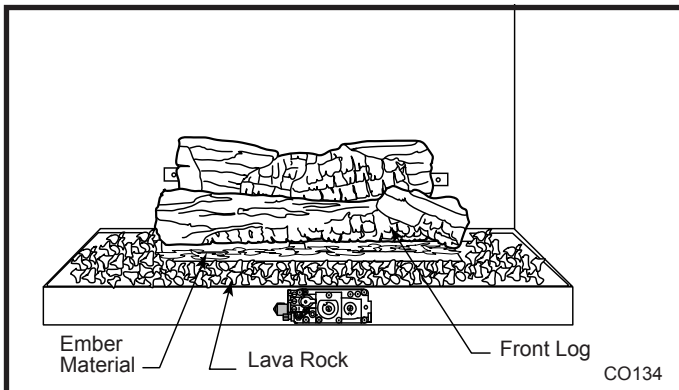

Fig. 67 Remove lava rock and ember material.
3. Remove the lava rock and ember material. (Fig. 67)